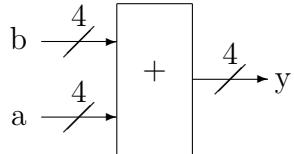
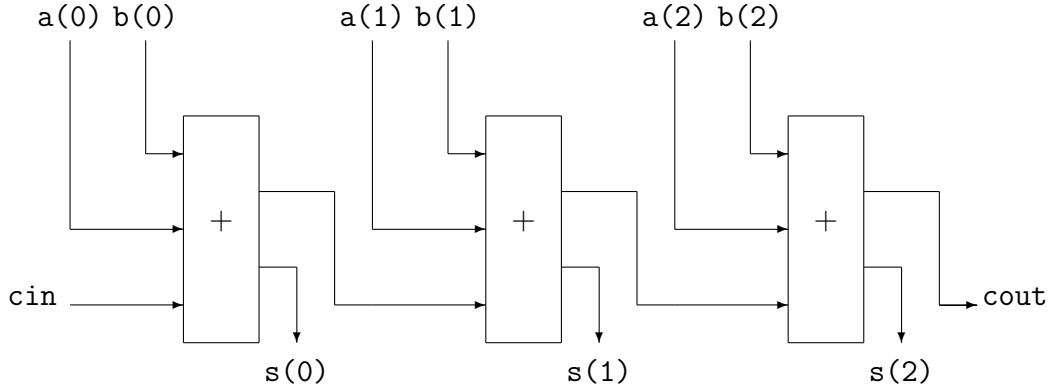

Figure 2: Four-bit ripple-carry adder block.
Figure 3: Example ripple-carry adder block diagram, using the full adder described in the previous section.
The next task is to design a four-bit ripple-carry adder using the FA as a component. The desired entity is illustrated in Figure 2. An example of a block diagram of a ripple-carry adder is shown in Figure 3. *Note* that you will need to modify this diagram to have the correct number of FA components and to handle the carry signals in accordance with the entity!
- Create the entity according to Figure 2. Refer to the test bench to get names and types right: name your entity `ripple_adder_4_bit`, and use the type `STD_LOGIC_VECTOR` for the input and output signals.
- Create the architecture for the ripple-carry adder in accordance with the entity. Use your previously-designed full-adder *as a component*—do not repeat the FA code multiple times in the ripple-carry adder! Use Figure 3 as inspiration and modify as needed.